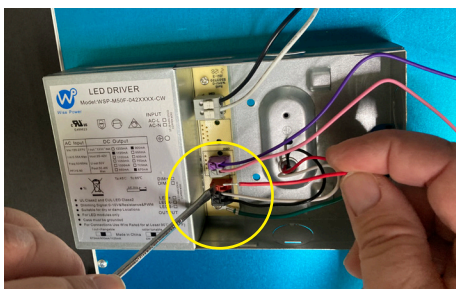

Figure 1
- Step 1. Remove Red wire from Power Supply (Figure 1)